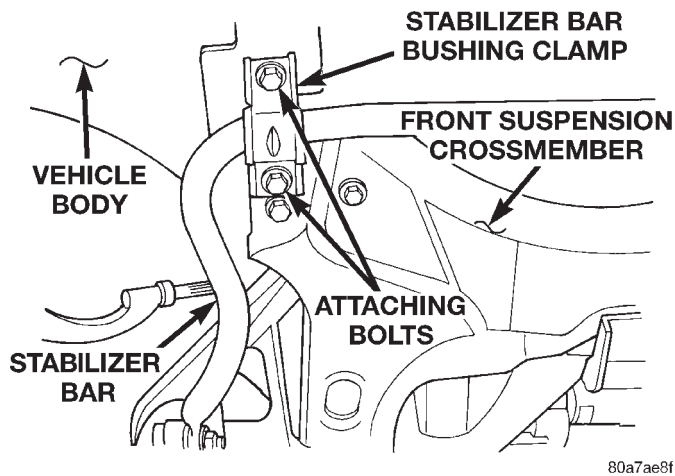

Fig. 57 Stabilizer Bar Bushing Retainer Attaching Bolts
(3) Remove the 4 bolts attaching the stabilizer bar bushing retainers to the front suspension crossmember and body (Fig. 57). Then remove the stabilizer bar assembly from the vehicle.
(1) Position stabilizer bar and bushings as an assembly into front crossmember. Install the stabilizer bar bushing retainer to crossmember and body attaching bolts (Fig. 57).
(2) Tighten the bushing retainer attaching bolts to a torque of 61 N·m (45 ft. lbs.).
(3) Align stabilizer bar attaching link assemblies with attaching link mounting holes in the lower control arms. Install stabilizer bar attaching links into both lower control arms. Install the attaching link to lower control arm retaining nuts. Torque the stabilizer bar attaching link nuts to 101 N·m (75 ft. lbs.).